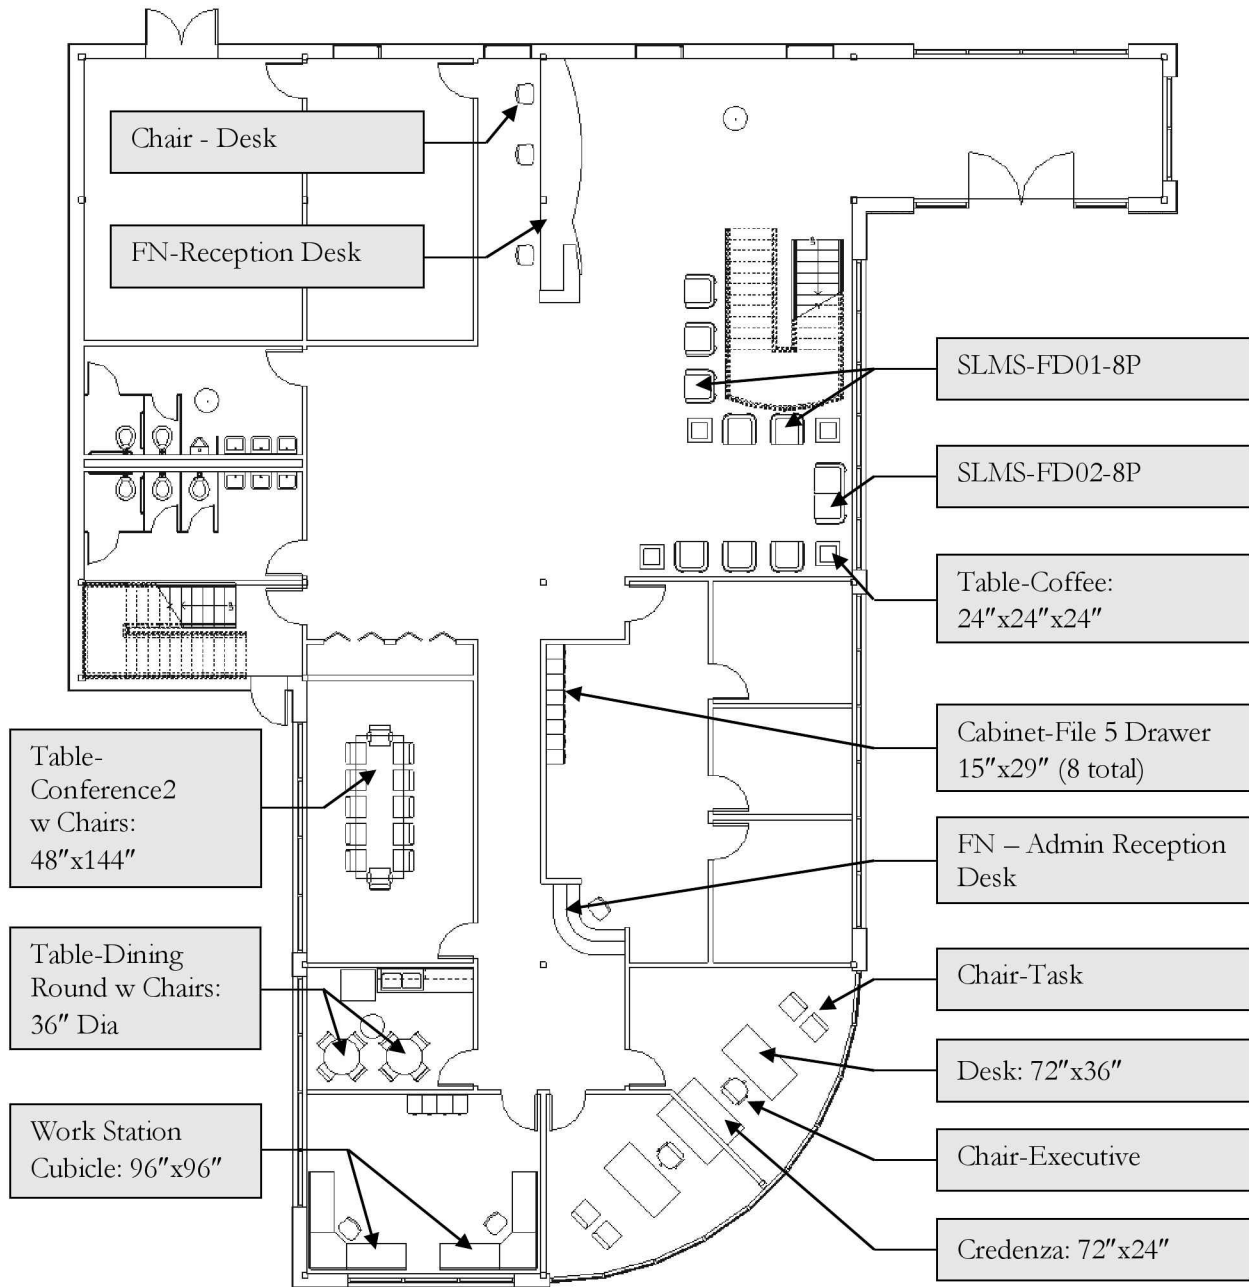

FIGURE 11-3.1 Level 1 furniture layout
- The next two images of Level 1 and Level 2, Figures 11-3.1 and 11-3.2, show the furniture layout. Place the furniture as shown.